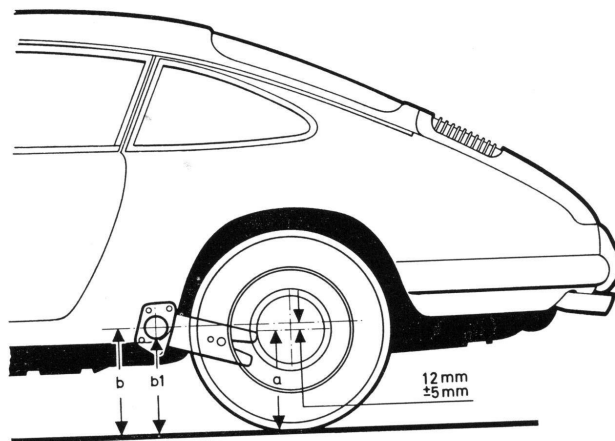

Fig. 6
2. Measure the vertical distance between the rear wheel center and a level part of the alignment ramp or a level floor (see dimension "a" in Fig. 6)